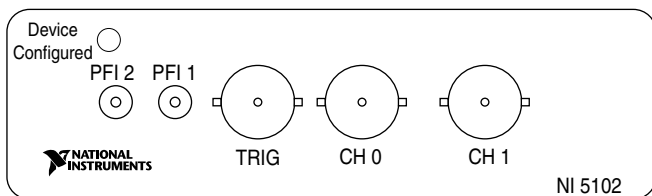

Figure 12. NI USB-5102 Front Panel Connectors
- ◆ **NI USB-5102 Front Panel**—Figure 12 shows the front panel of the NI USB-5102.